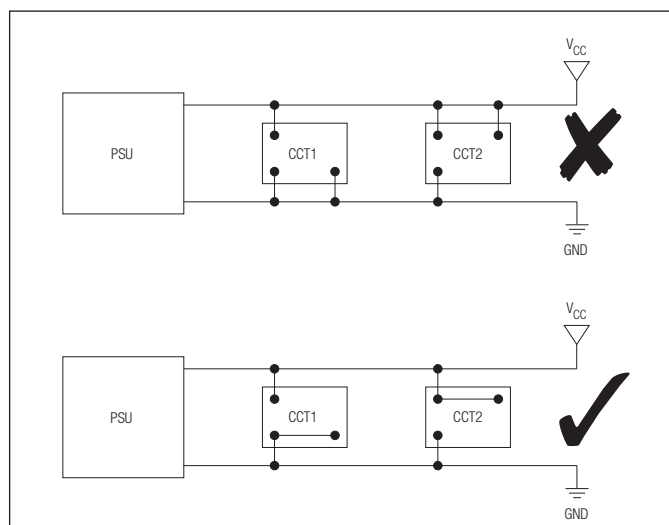

Figure 18: Eliminate Loops in Supply Line
- Eliminate loops in supply lines (see figure 18).